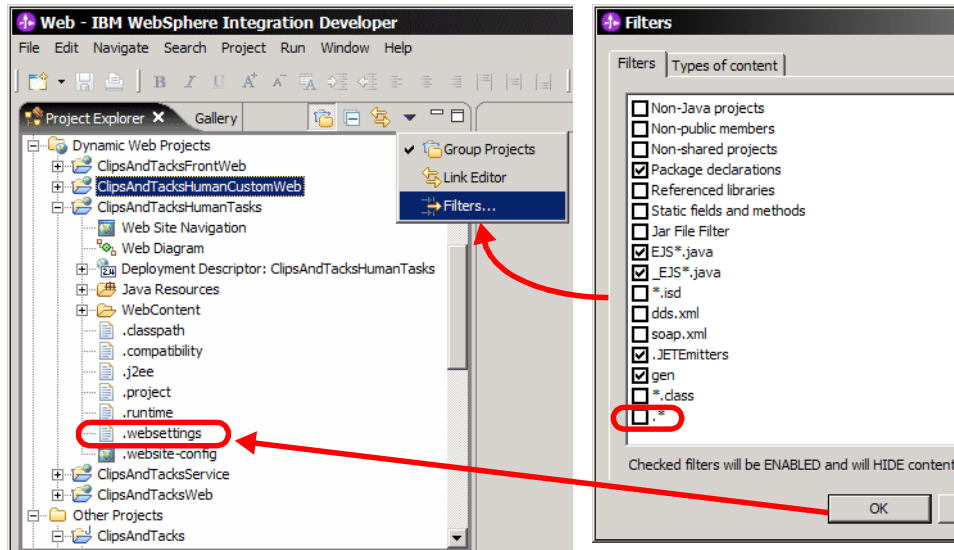

Figure 9-61 Changing the filter to see special files
- ▶ You have to change the filter to see files that start with a period (Figure 9-61).